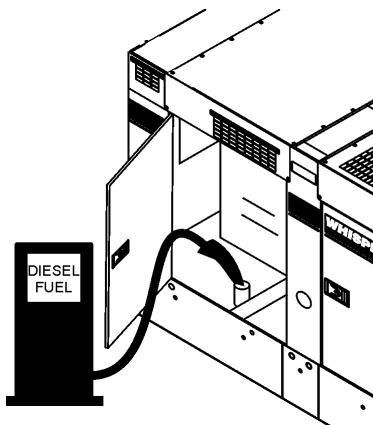

Figure 19. Fueling the Generator
4. Open cabinet doors on the “right side” of the generator (from generator control panel position). Remove fuel cap and fill tank (Figure 19).